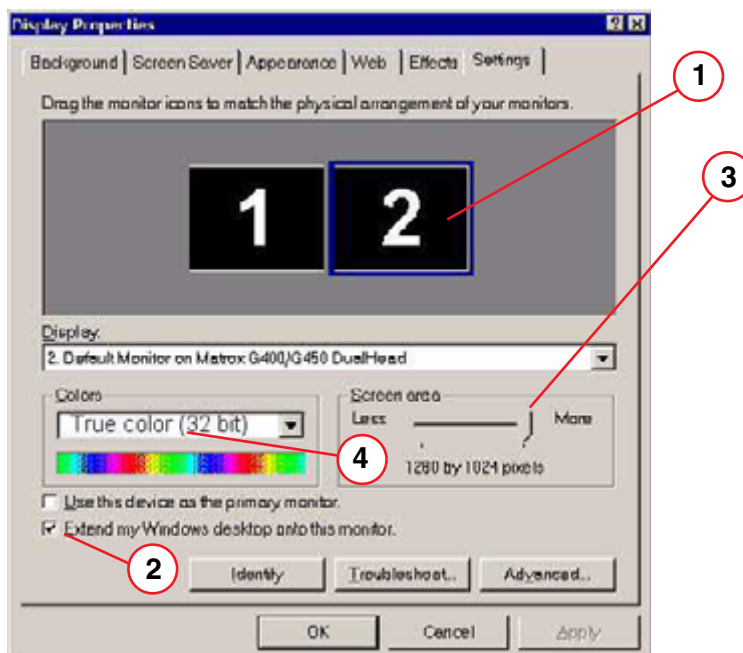

Fig. 14: Matrox display properties
- Click on the right (second) monitor symbol (1/ Fig. 14 / p. 16) and make sure that the **Extend my Windows desktop on this monitor** (2/ Fig. 14 / p. 16) checkbox is checked.
- Select **True Color (32 bit)** in the "Colors" pull-down menu (4/ Fig. 14 / p. 16).